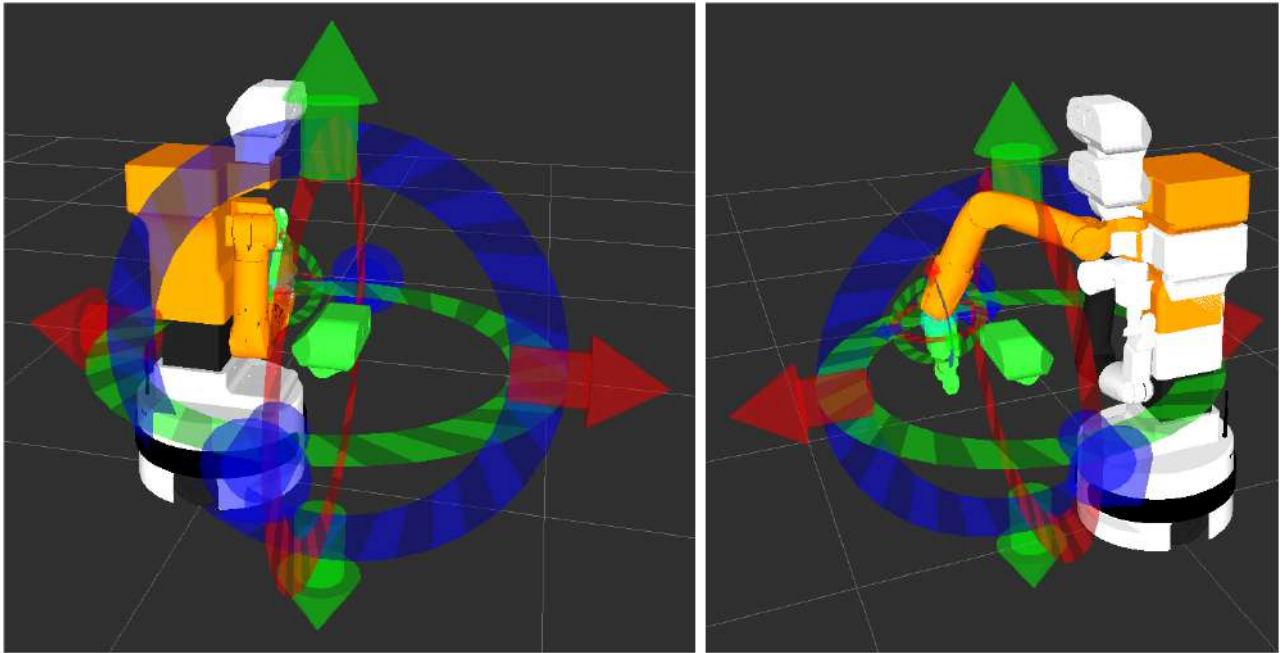

Figure 127: Example with an object in the scene. Initial pose (left) and goal pose (right).
3. Move the end-effector using the “*flying end-effector*” to a goal position like the one shown on the right of figure 127. Make sure that no body part is in red, which would mean that *MoveIt!* detected a collision in the goal position. Goals which result in a collision state will not be planned at all by *MoveIt!*.